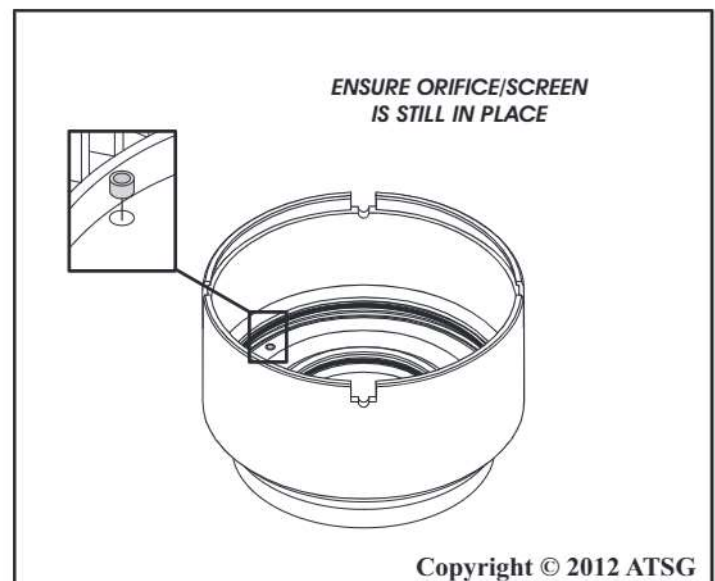

Figure 180
12. Ensure the orifice/screen in the overdrive/reverse piston is still in place, as shown in Figure 180.